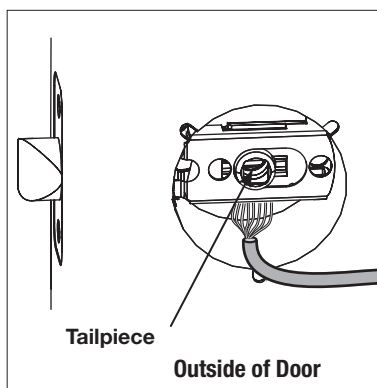

Figure 1A
**NOTE:** Cable goes **under** latch (Fig. 1A & 1B).